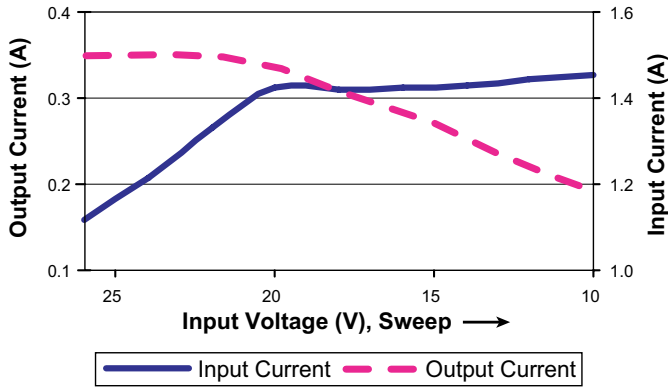

Fig. 5 Input Under-Voltage Behavior
3. Input Under Voltage Protection: Input under voltage protection is provided by limiting the input current at low input voltages. Fig. 5 shows the output and input currents at voltages less than the minimum rated voltage. The LED current will decrease as the input voltage falls and the input current limits to about 1.4A. Note that the input current limit is not a hard limit as the slope compensation added to the peak current sense signal will allow a small change in the input current with a decrease in the input voltage.